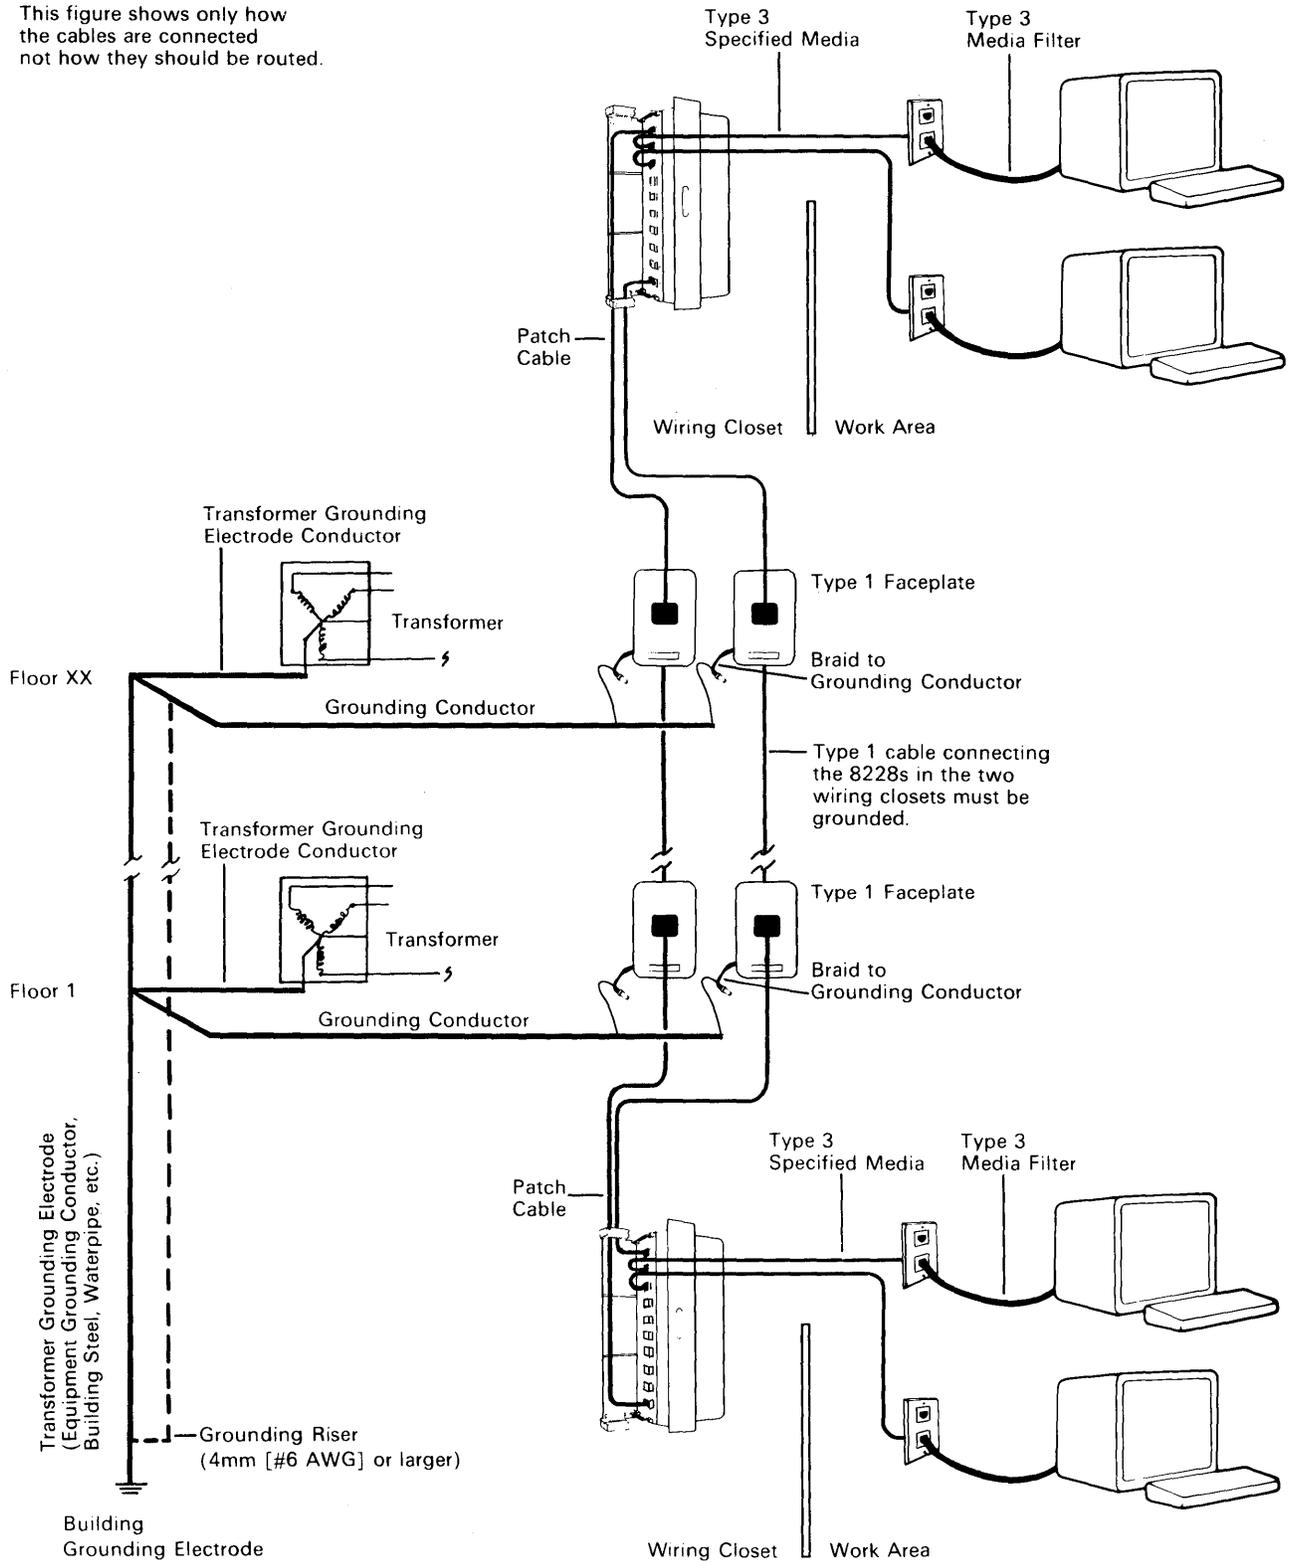

Figure 4-4. Grounding a Network without Equipment Racks
21. With a wire nut, connect the braided shield to a 2-mm diameter (AWG#12) grounding wire. Connect the other end of the grounding wire to a suitable ground as shown in Figure 4-4.
17. With a wire nut, connect the braided shield to a 2 mm diameter (AWG#12) grounding wire. Connect the other end of the grounding wire to a suitable ground as shown in Figure 4-4.